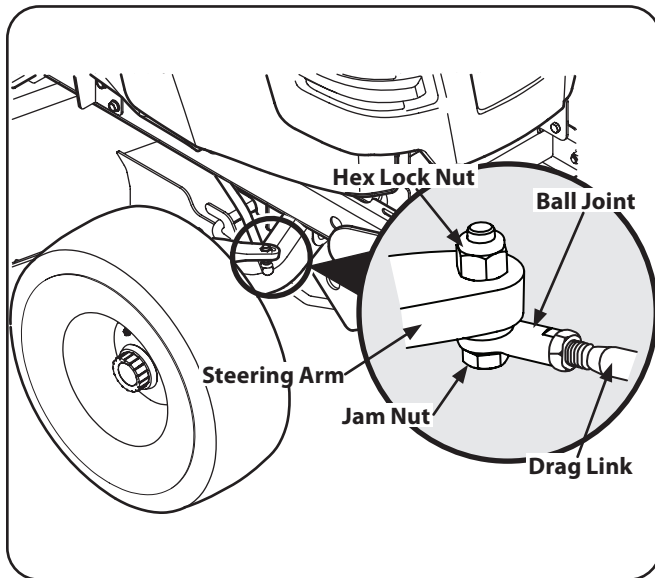

Figure 6-11
5. Loosen the jam nuts from the ball joints. See Figure 6-11.
6. Disconnect the front ball joints from the steering arms by removing the hex lock nuts. Refer to Figure 6-11. Manually move each wheel to achieve the required toe-in and equal D measurements.